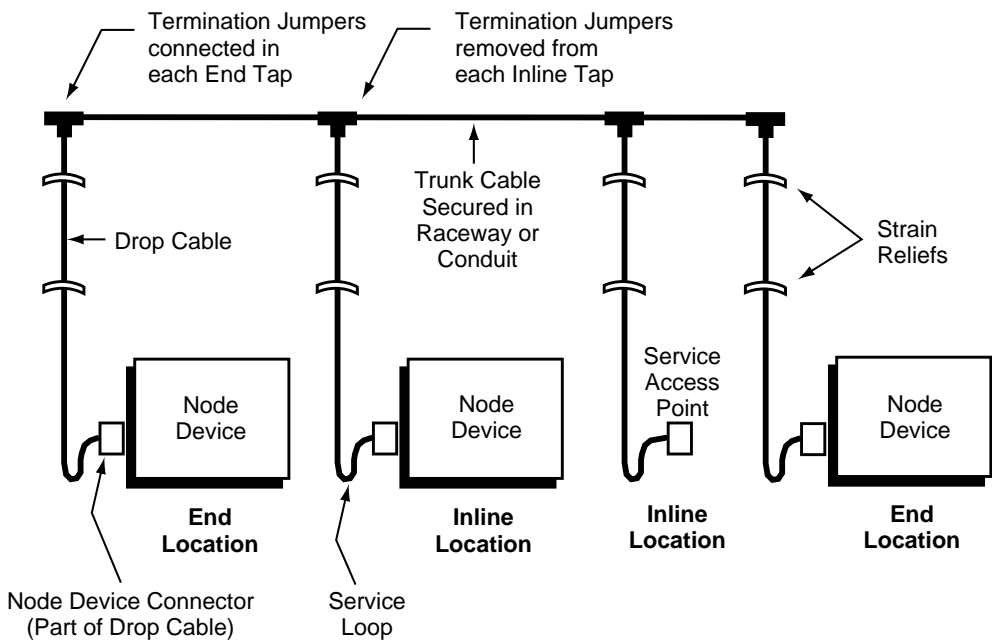

Figure 9: Typical Cable Routing
Figure 9 shows typical cable routing of the network trunk cable between tap locations. The figure also shows cable drops to several node devices and service access points.
Referring to Figure 9, route the cable between the site locations of the node devices. Guidelines for cable routing are described below.
Mount each tap at a location near its node device. It is recommended that the tap be mounted outside the drive controller enclosure. The tap must be near enough to the node device to allow the drop cable to reach the node device with a service loop. See Figure 9 for drop cable routing.
- The cable runs should be consistent with the network cable routing illustrated in Figure 9 on page 14.